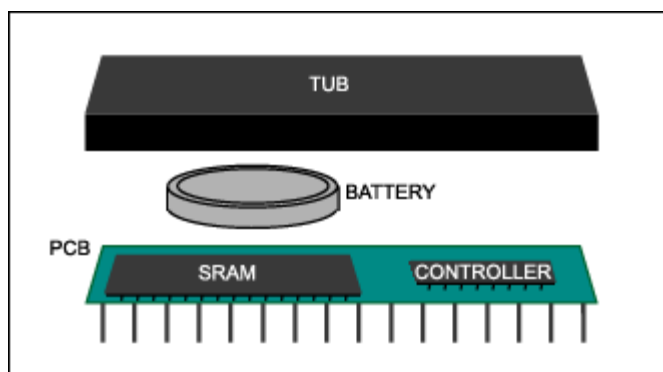

Figure 1. JEDEC-standard SRAM.
An NV SRAM is a nonvolatile memory module built using a standard SRAM, an integrated circuit (IC) controller with a battery switchover circuit, and a lithium battery. All of these components are mounted on a circuit board and encapsulated in a plastic tub. The example below (Figure 1) is pinned out to match the footprint and pinout of a JEDEC-standard SRAM so that the two can be used interchangeably.